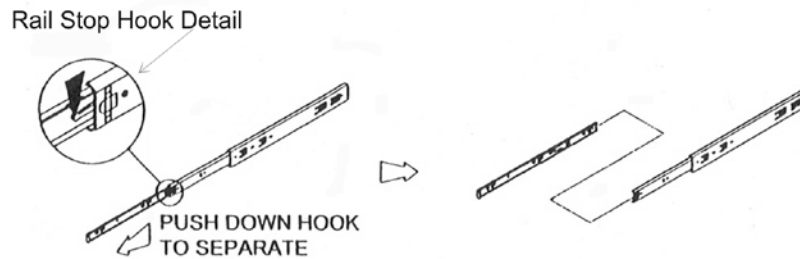

Figure 1 – Rail Stop Hook Detail
5. Repeat steps 3 and 4 for the other rack slide. (Refer to figure 1 as necessary)